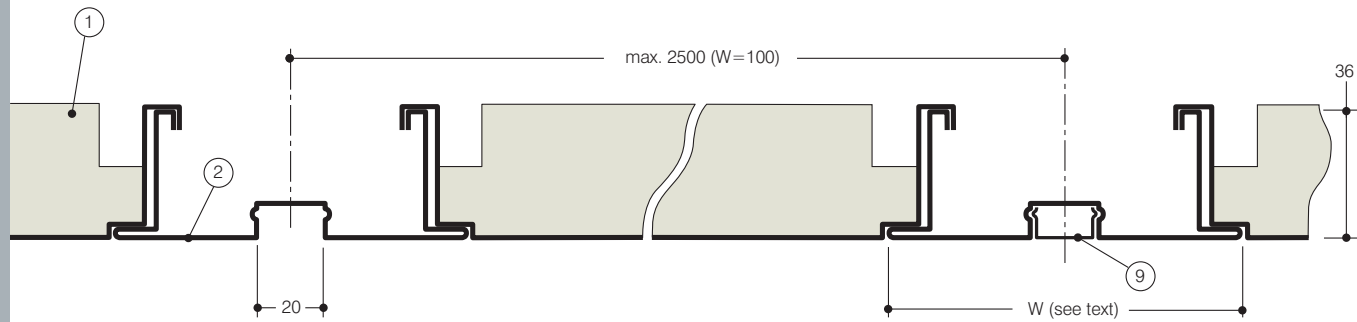
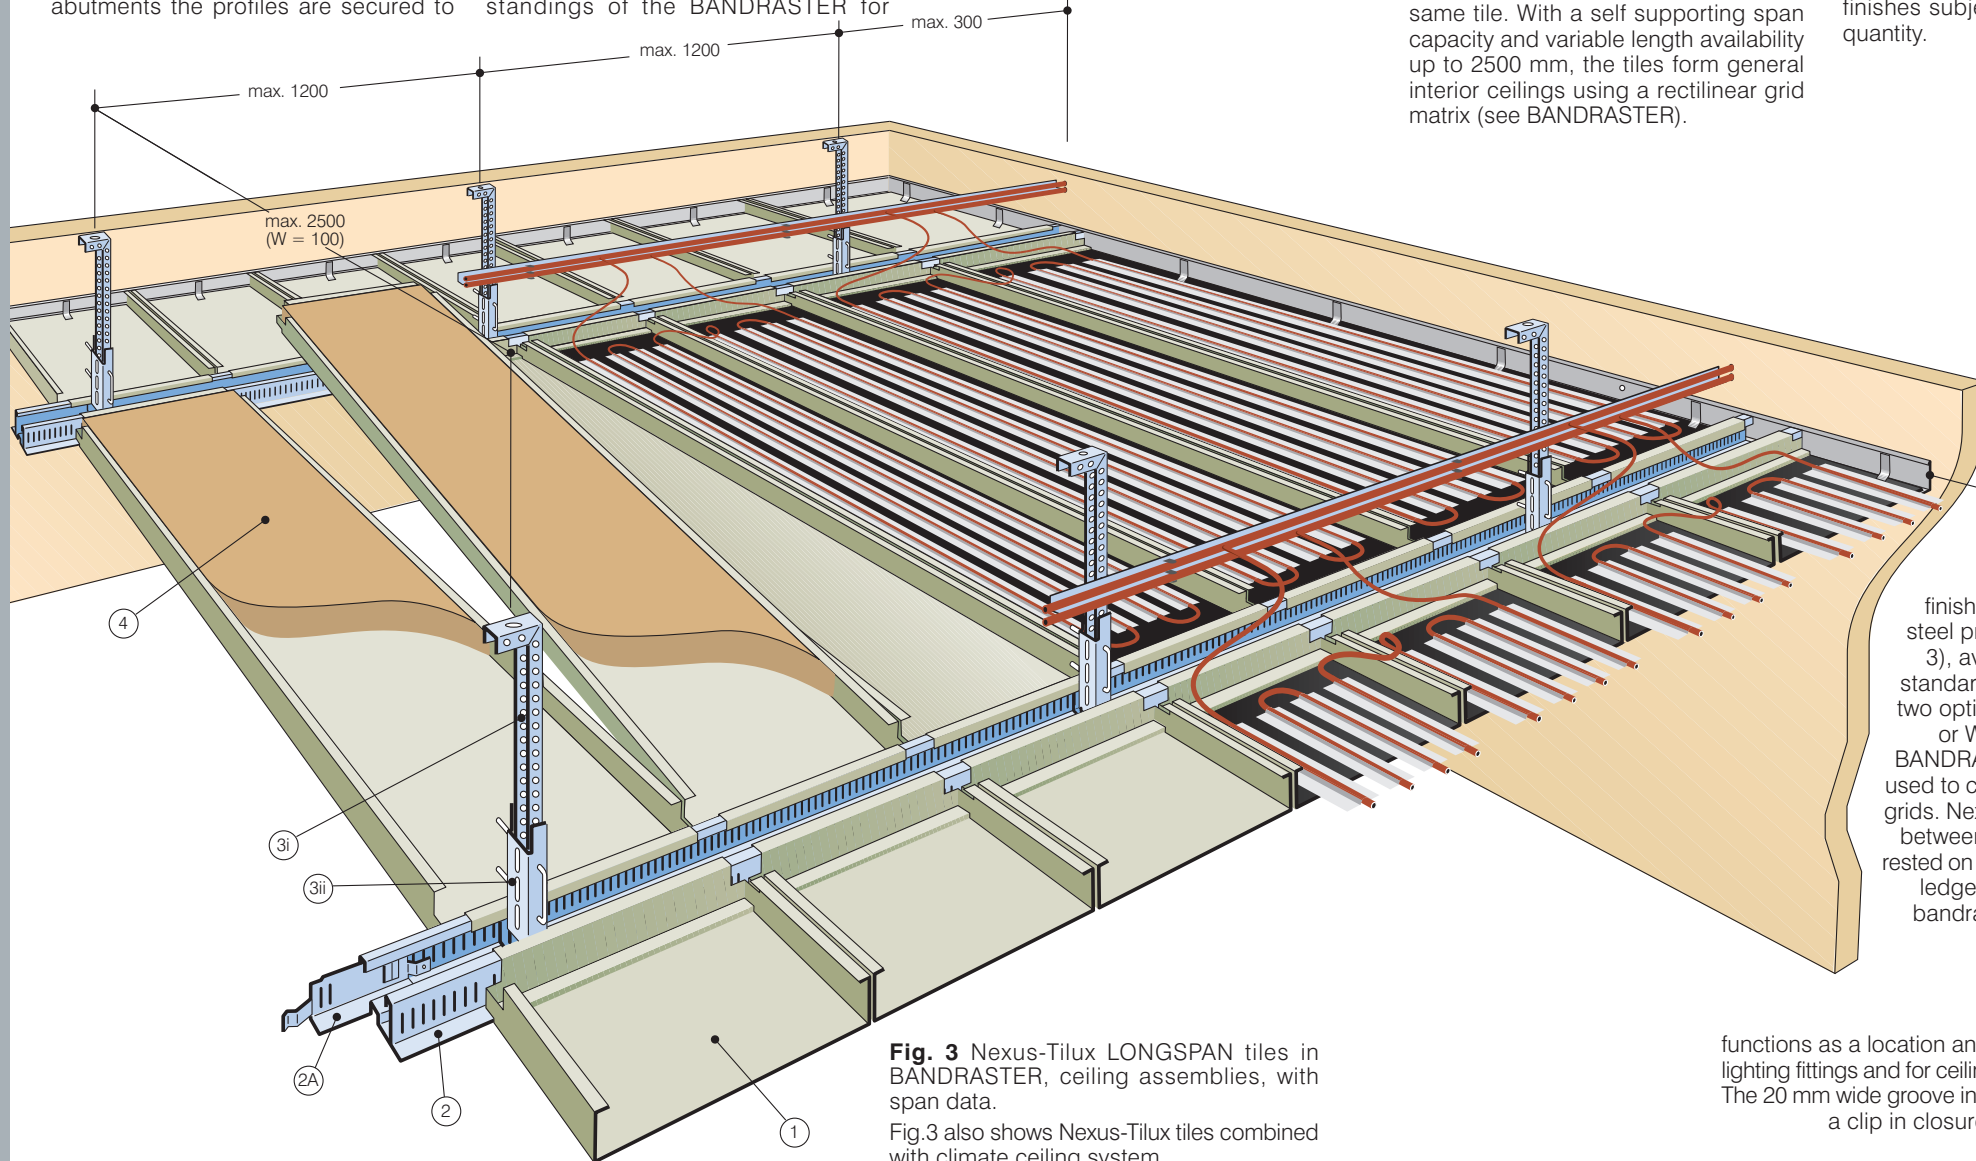

Fig. 2 BANDRASTER profiles (W=100) in cross section.
Fig. 3 Nexus-Tilux LONGSPAN tiles in BANDRASTER, ceiling assemblies, with span data.
The BANDRASTER profiles (2) (Fig. 2 & 3) are located on centre of rectilinear grid lines specified in working documents/drawings and suspended from the structural soffit by adjustable hangers and brackets (3i) & (3ii) (Fig. 3). At wall abutments the profiles are secured to
optimum security. Either of the perimeter angles (5) or (6) (Fig. 3) can be used to cloak the cut edges of Nexus-Tilux tiles at walls and other abutments. The edges are held down by clips on angle (5) and by pull out tabs on angle (6).
Fig. 3 also shows Nexus-Tilux tiles combined with climate ceiling system.
NEXUS-TILUX tiles can act as a climate ceiling (cooling and heating) when combined aluminium profiles and bent copper elements are connected and assembled in the Nexus-Tilux tiles (Fig. 3) in the factory. Specification details and test data are available on request.
BANDRASTER A stove enamel finished galvanized mild steel profile (2) (Figs. 2 & 3), available in 100 mm standard width (W) and in two optional sizes W=120 or W=150 mm. These BANDRASTER profiles are used to construct rectilinear grids. Nexus-Tilux tiles span between these, their ends rested on 11 mm wide profile ledges and hung on the bandraster upstandings.
BANDRASTER functions as a location and support track for lighting fittings and for ceiling height partitions. The 20 mm wide groove in the profile accepts a clip in closure piece (9) (Fig. 2).